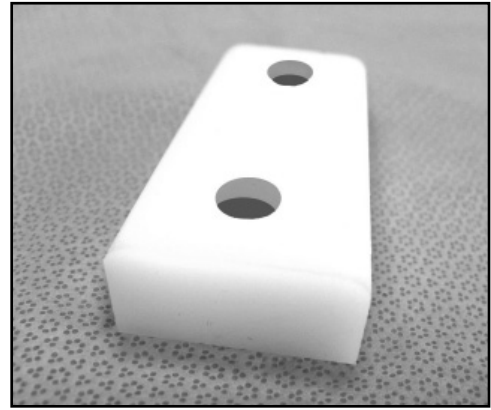
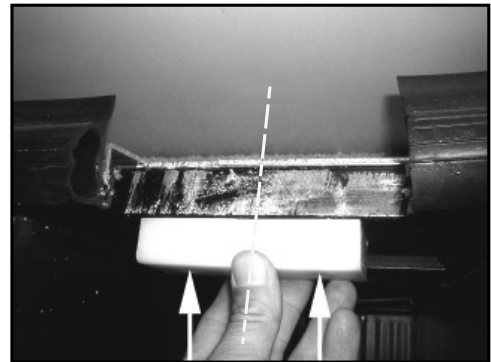

Figure 3
Figure 4
8. Use a Lift Block, #507559 with the predrilled holes as a drilling guide. See Figure 3. Position a Lift Block under and centered on the steel tube beneath the aluminum slip plate with the Lift Block also centered on the marks made in Step 6. See Figure 4. Hold a 1/8" thick steel plate or ceramic floor tile above the aluminum slip plate in the drilling area to protect the slide-out room floor. Drill 1/4" holes through the steel tube and aluminum slip plate. Use care to prevent damaging the bottom of the slide-out floor. Drill all six holes.